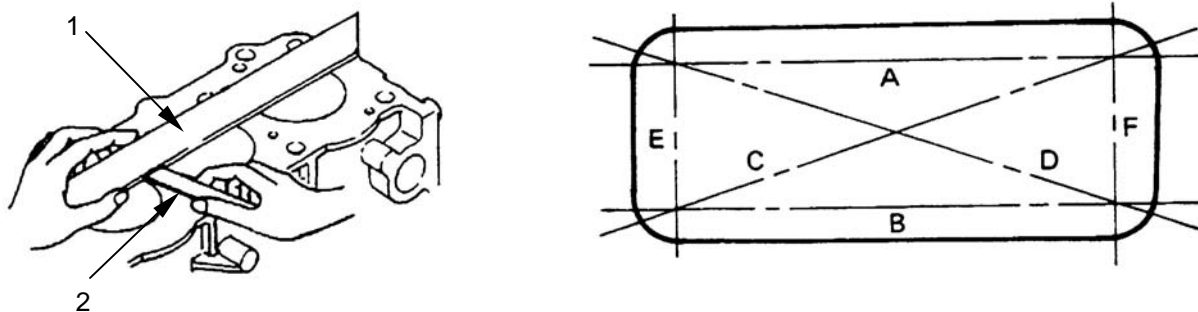

Figure 10. Cylinder Body Upper Face
- a. Use a straight edge (**figure 10, item 1**) and feeler gauge (**figure 10, item 2**) to measure the four sides and the two diagonals of the cylinder body upper face.